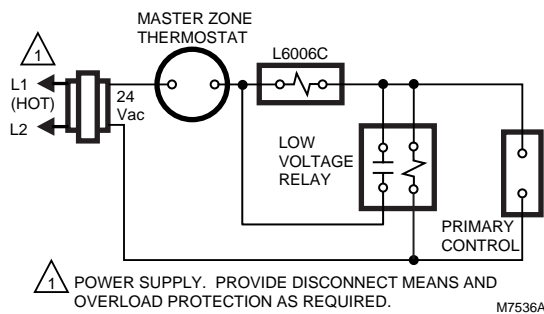

Fig. 9. Holding circuit for use with L6006 when verifying zero psig steam pressure.
1. Install a strap-on Aquastat® Controller, such as the Honeywell L6006C Aquastat Controller, on the condensation return line (see Fig. 9).